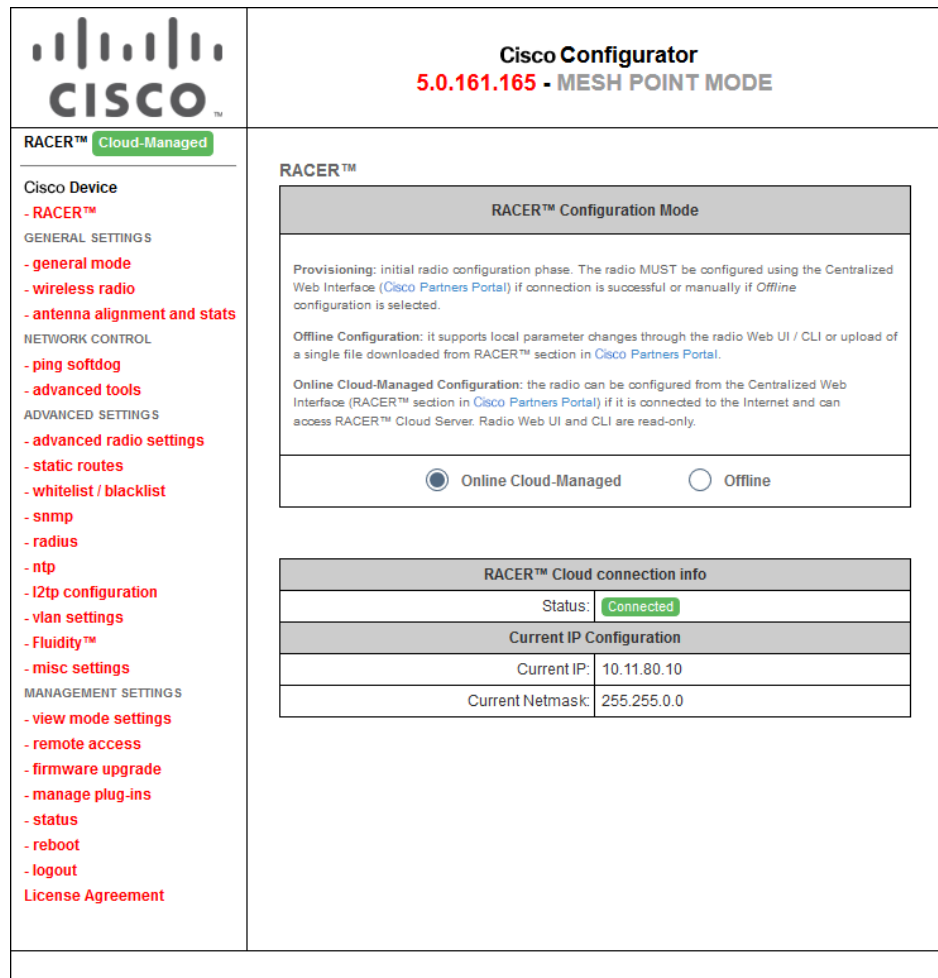

Figure 18. Cisco Configurator (landing page)
- The Configurator landing page will be shown (Figure 18 (page 52)).